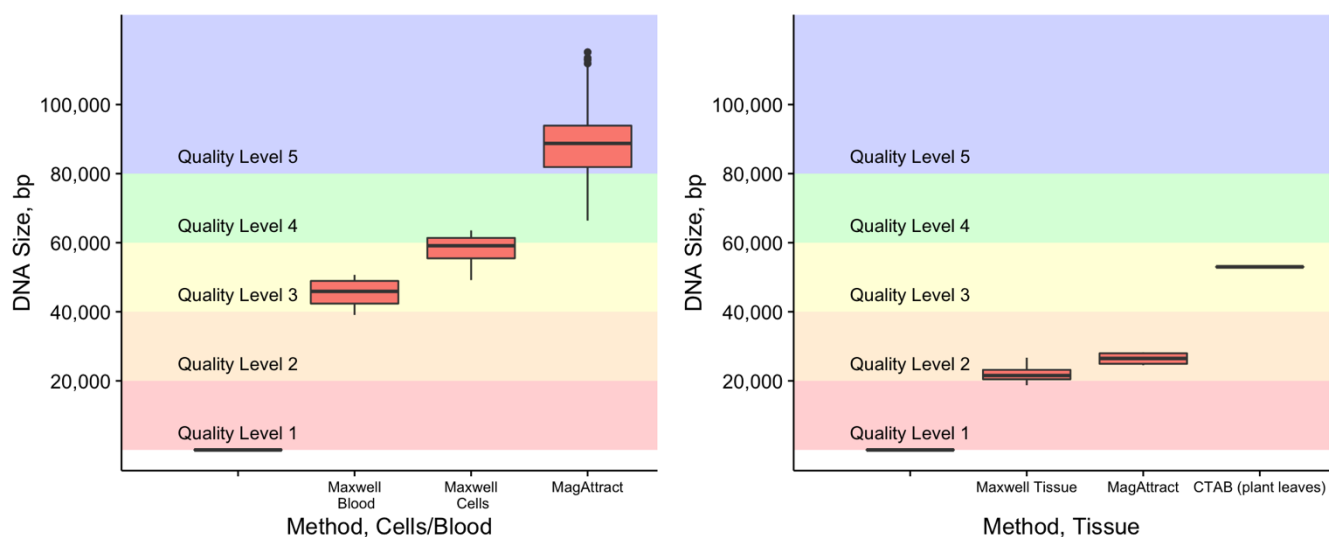

Fig 1. DNA Quality Levels obtained using 10x Genomics' Recommended Sample Prep Protocols.
The purpose of this document is to provide guidance for HMW gDNA extraction, including general recommendations, and links to protocols recommended by 10x Genomics (Fig 1). The Chromium™ Genome Protocols generate long-range information across the length of individual DNA molecules. Starting the process with High Molecular Weight (HMW) genomic DNA (gDNA) will typically result in better application performance, such as increased haplotype phase block length and ability to call structural variants. For a detailed comparison of DNA Quality and application performance, please refer to our Technical Note CG00046 on our Technical Support Website. An excerpt from this Note is shown in Fig 2.
- 2. HMW gDNA extraction protocol.** We have found that the method used for gDNA preparation strongly correlates with DNA Quality after running Chromium™ Genome. Mild extraction protocols (no heat or harsh buffers) produce gDNA molecules that are longer and less damaged (fewer nicks and abasic sites). We strongly encourage following our gDNA extraction protocols, as they are thoroughly tested in the Chromium™ Genome Workflow. Fig 1 demonstrates typical results from for cell suspensions, whole blood, and fresh-frozen tissue using 10x Genomics' Demonstrated Protocols (or in the case of CTAB extraction, a protocol kindly provided by our collaborators Allen van Deynze and Kevan Stoffel at UC Davis).